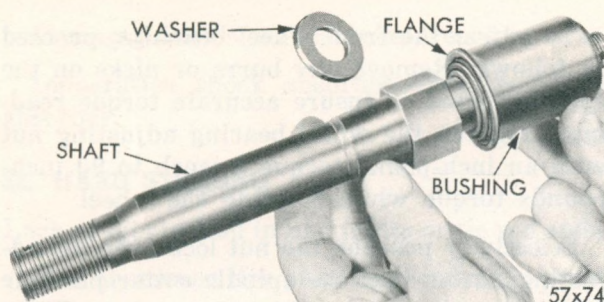

Fig. 31—Removing or Installing Lower Control Arm Pivot Shaft Bushing
14. LOWER CONTROL ARM PIVOT SHAFT BUSHING—REPLACEMENT (FIGS. 31 and 32)